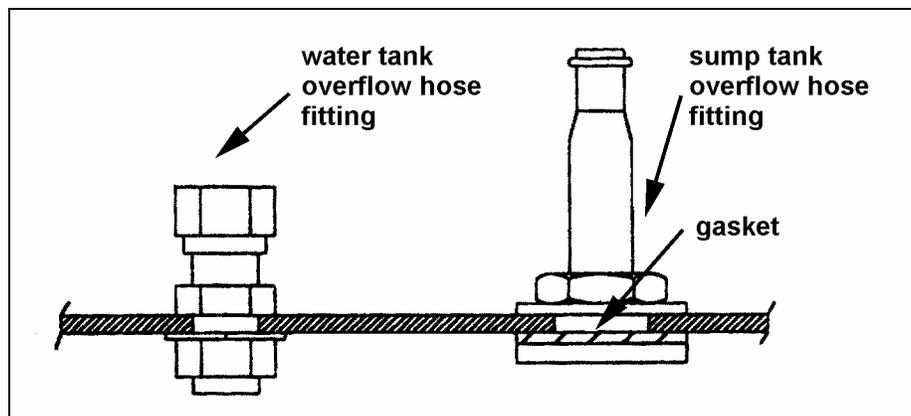

FIGURE 11 : AUXILIARY SUMP TANK DETAIL
14. Remove the water tank overflow fitting and the sump tank overflow fitting (figure 11).
18. Install the water tank overflow fitting and the sump tank overflow fitting on the new auxiliary sump tank (figure 11).